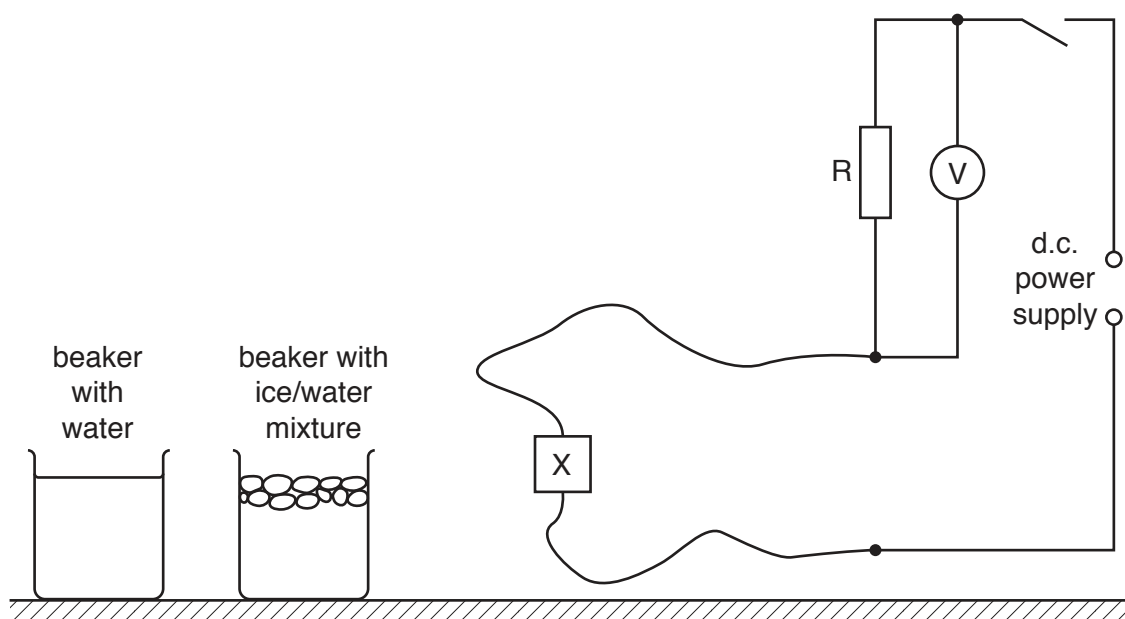

Fig. 2.1
5. The Supervisor should set up the apparatus as shown in Fig. 2.1. Supervisors should check that when the thermistor is placed in the beaker of water at room temperature the reading on the voltmeter is in the region of 4 V. If a different thermistor to that described in Note 2 is used then the value of R will need to be changed. Generally a larger value of R will give a larger reading on the voltmeter.
- ensure that the apparatus has been restored to its original state as in Fig. 2.1. If cells are used in the circuit, they should be checked and replaced, if necessary.